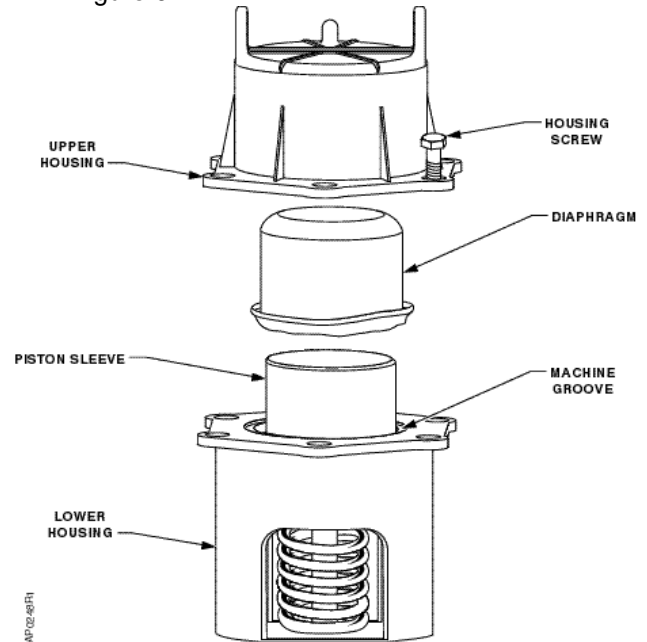

Figure 9.
3. Remove the diaphragm from the piston sleeve noting how the diaphragm is folded. See Figure 9.